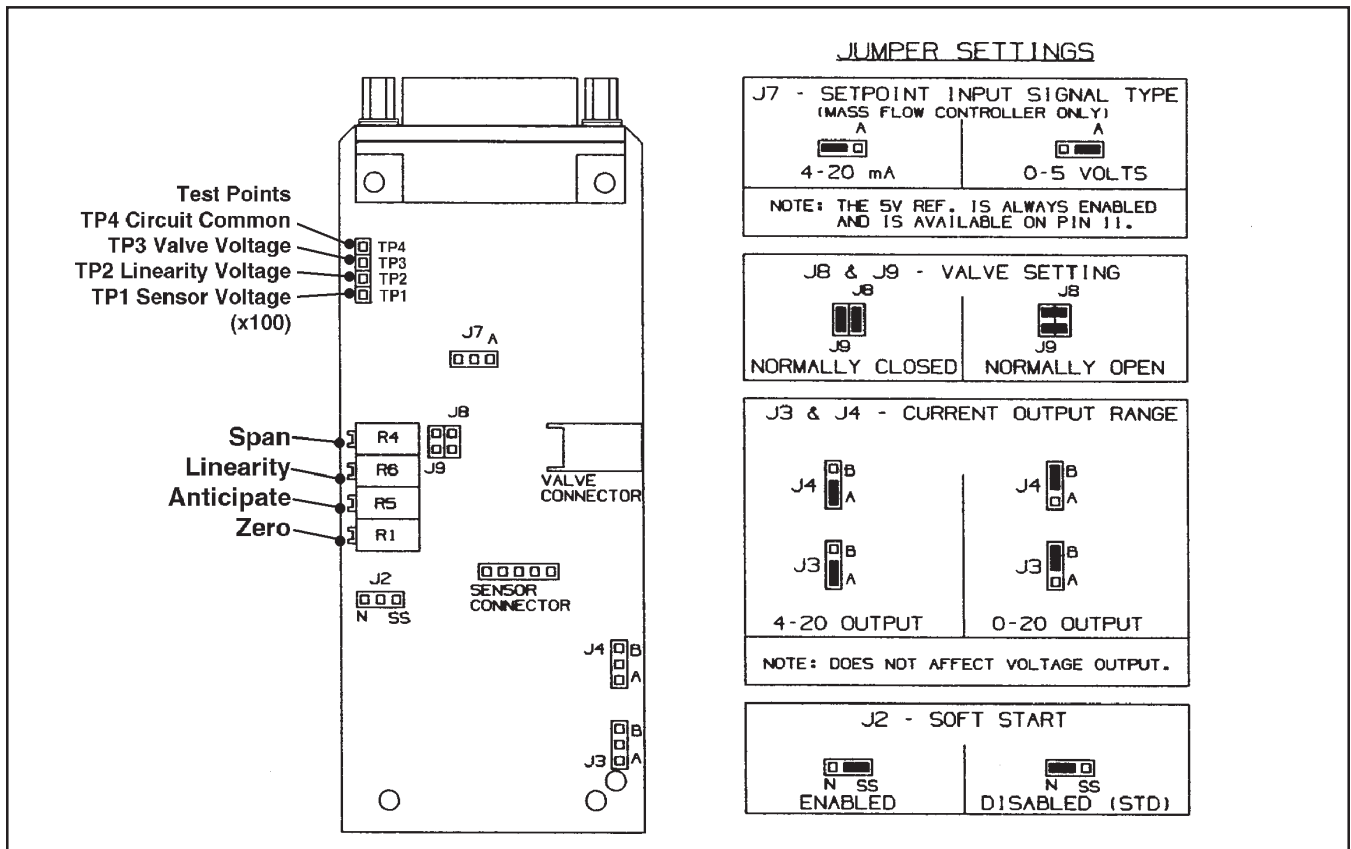

Figure 3-5 PC Board Jumper Location & Function
To insure proper operation, the Mf device must be connected per Figures Figure 1-2 (Maximum Allowable Loop Resistance); Figure 1-3 and Table 1-3 (Terminal Strip Hookup); and Figures 1-7 through 1-12 (Dimension Drawings). Configure in accordance to Section 2-9 and Figure 3-5. As a minimum, the following connections must be made for new installations:
The Mf Series Mass Flow Controller can be used with a current (4-20 mAdc) or voltage (0-5 Vdc) setpoint. To use the current setpoint, connect the setpoint (+) signal to TB-2, Terminal 9, and the setpoint return (-) signal to TB-2, Terminal 7, and configure the PC board per Section 2-7. To use the voltage setpoint, connect the setpoint signal to TB-2, Terminal 8, and the voltage setpoint return to TB-2, Terminal 7, and configure the PC board per Section 2-7 and Figure 3-5.
The flow signal output can be measured as a voltage or a current simultaneously on two different positions of the Terminal Strip, TB-1, Terminal 5 indicates the flowrate with a 0-5 Vdc signal proportional to the mass flow rate. TB-1, Terminal 6 indicates the flowrate with either a 0-20 mAdc or 4-20 mAdc current signal as determined by jumpers on the PC board (refer to Section 2-7 and Figure 3-5 for jumper positions). Both the current and voltage signals are returned on TB-1, Terminal 4.
Refer to Section 2-9 for the proper electrical hookup. Refer to Figure 3-5 for PC board jumper locations and functions.
4. Verify that all user selectable jumpers are in their desired positions. Refer to Figure 3-5.